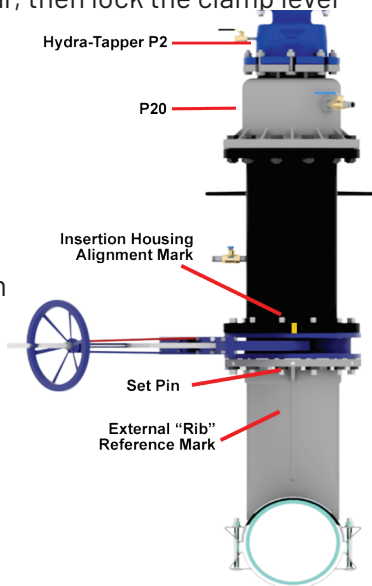

FIGURE 55
3.0.17) Make a reference mark on the insertion housing aligned with the centerline of the Alignment Gauge (see Figure 55).
(See Figure 55)